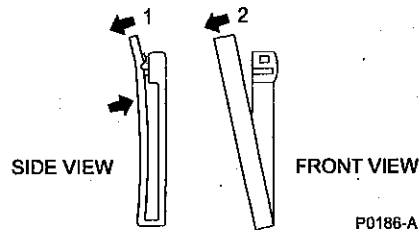

Figure 5 - Relic Hawk belt clips
- The belt clips used on the battery pack are identical to those used on the Control Bag (see Figure 5 for details of clip operation).
- It can be placed in its Control Bag which is attached to the operator's waist via two belt clips (see Figure 5),